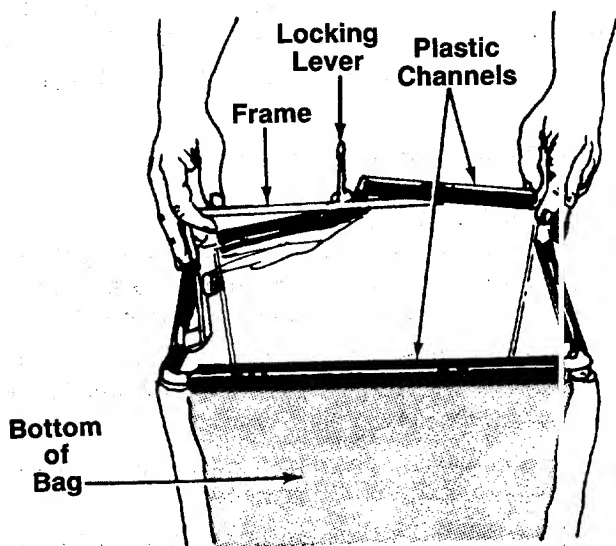

FIGURE 9.
4. Secure front of bag to frame by working plastic channels on bag over frame. See figure 9. Make certain knob on locking lever is outside the grass catcher bag.